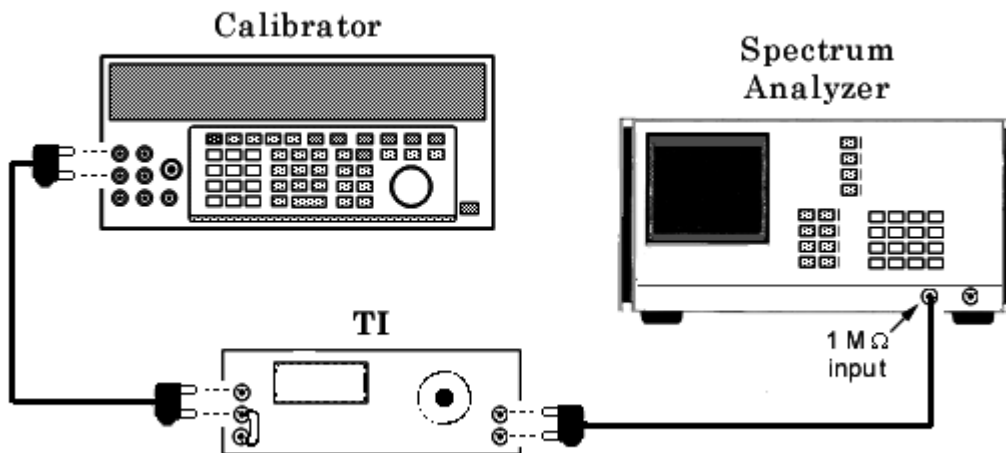

Figure 4. Fundamental frequency rejection (alternate method) - equipment setup.
- (1) Connect equipment as shown in figure 4.
- (2) Repeat 18 a (2) and (4) through (5) above.
- (3) Adjust **SENSITIVITY** and **VERNIER** controls for a 0 dB indication on TI meter. Record spectrum analyzer 500 Hz signal amplitude (as reference).
- (4) Repeat 18 a(7) and (8) above.
- (5) Add dB readings of **METER RANGE** switch and spectrum analyzer signal amplitude. Total dB change will be greater than 80 dB below indication recorded in (3) above.